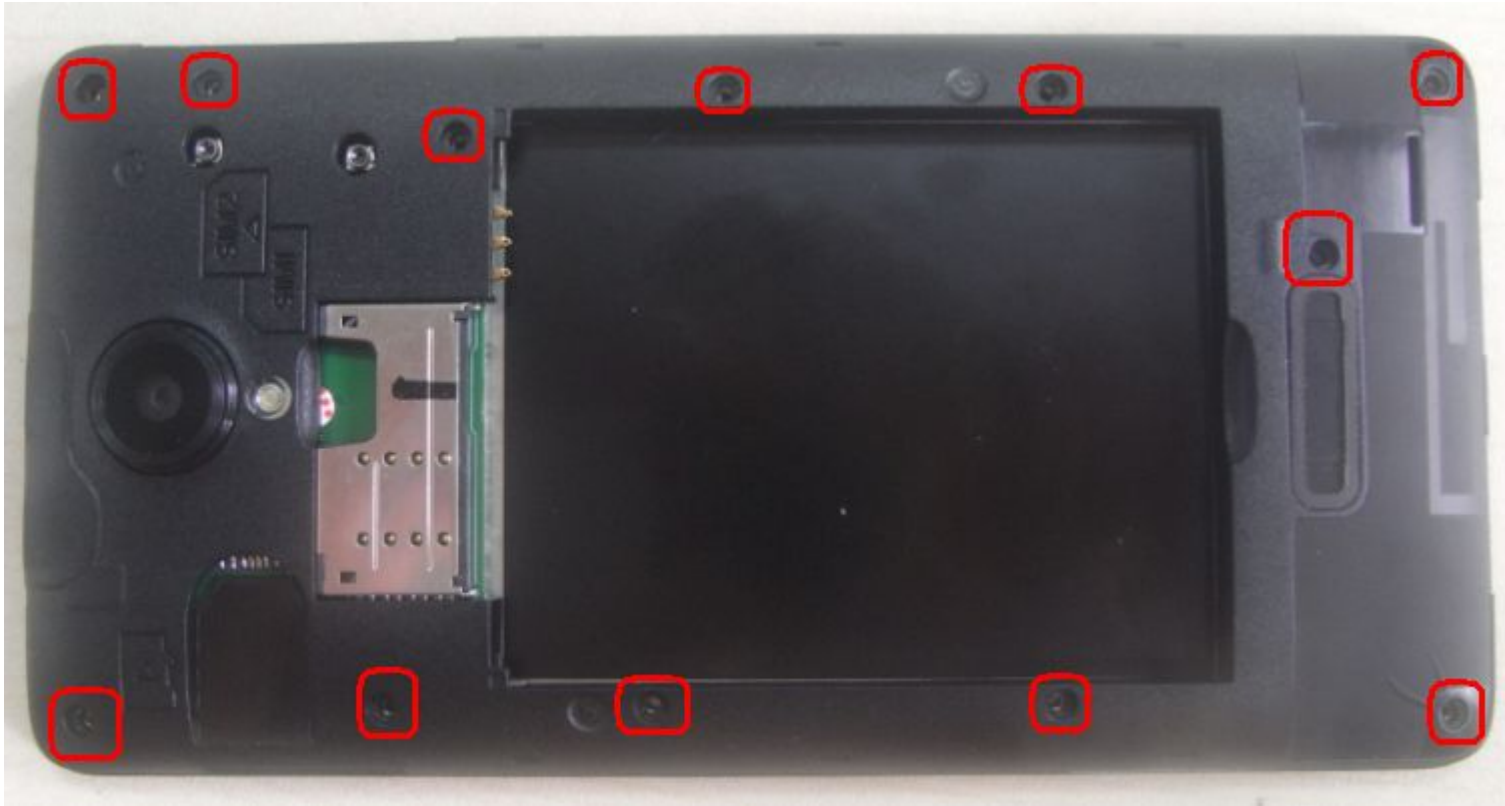

Fig. 2
1) Unscrew 12 screws in back cover , as the Fig.2;